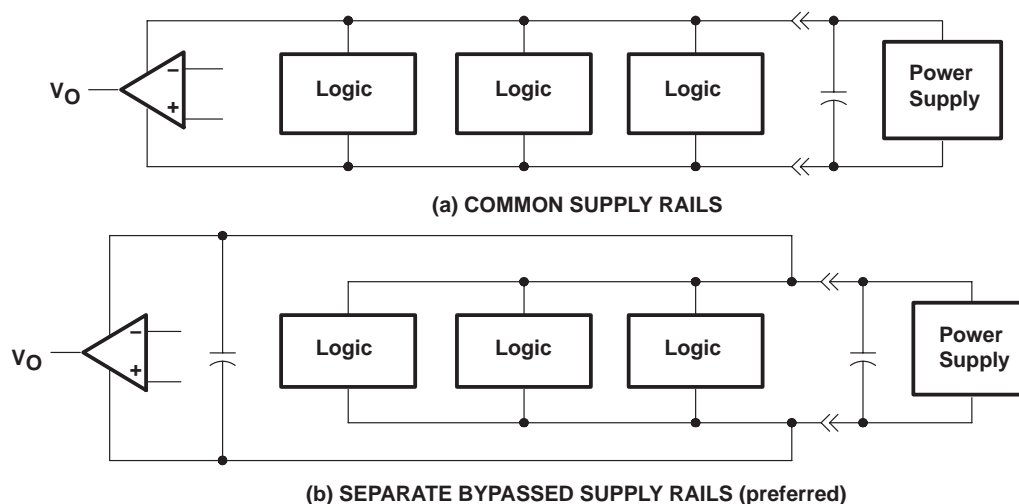

Figure 39. Common Versus Separate Supply Rails
1. Power the linear devices from separate bypassed supply lines (see Figure 39); otherwise the linear device supply rails can fluctuate due to voltage drops caused by high switching currents in the digital logic.